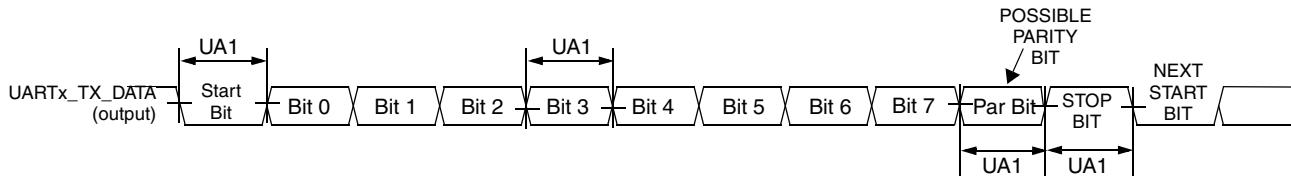

Figure 93. UART RS-232 Serial Mode Transmit Timing Diagram
**Figure 93** depicts the transmit timing of UART in the RS-232 serial mode, with 8 data bit/1 stop bit format. **Table 68** lists the UART RS-232 serial mode transmit timing characteristics.